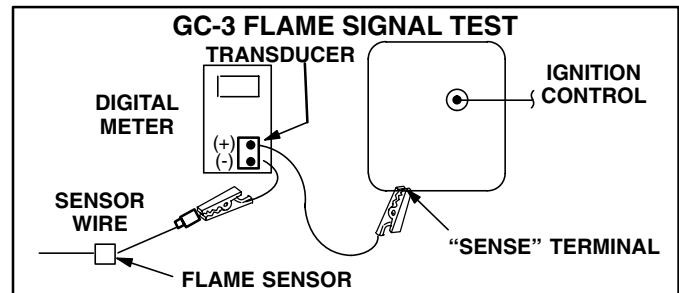

FIGURE 65
- 4 - Connect (+) lead of transducer to ignition control sensor connection. See figure 65.
- 5 - Connect (-) lead of the transducer to sensor wire. See figure 65.